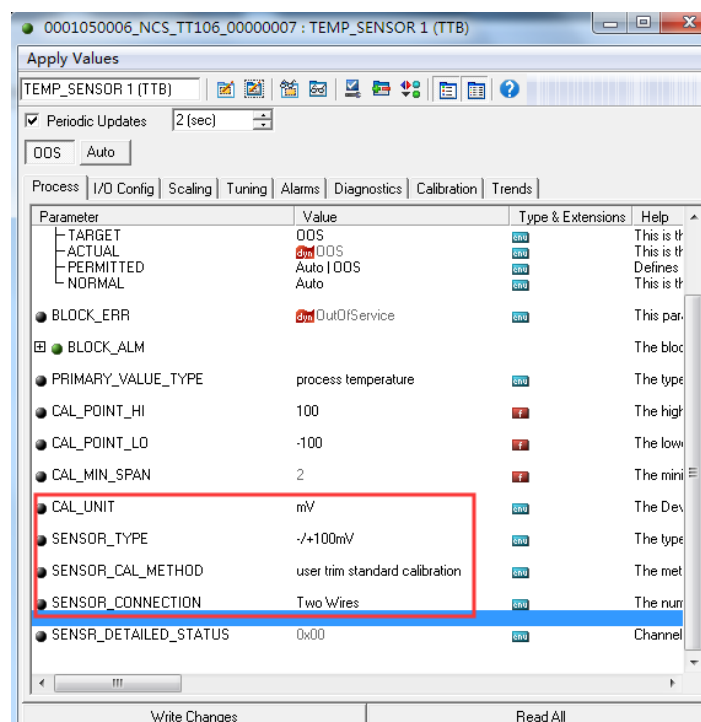

Figure 3.8 Two-point linearization calibration configuration diagram
(1) Set the TEMP\_SENSOR1 MODE parameter of the transducer block to OOS, and set the SENSOR\_TYPE parameter to -/+ 100mV. Set the calibration unit parameter CAL\_UNIT to mV according to the sensor type, and set the parameter SENSOR\_CAL\_METHOD to "User Trim Standard Calibration". The setting diagram is shown in Figure 3.8 below.